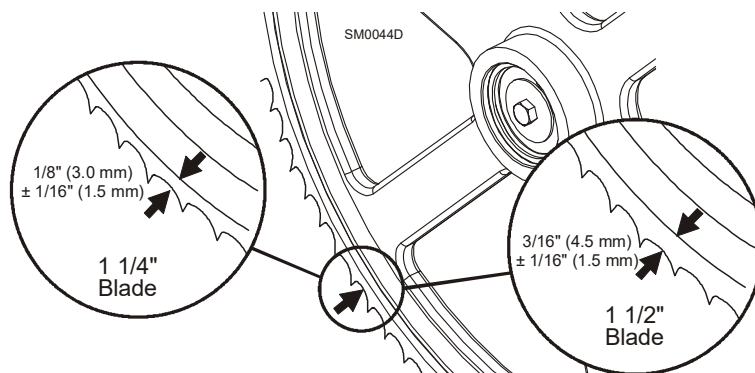

FIG. 3-8
7. Use the cant control to adjust where the blade travels on the blade wheels as shown above in **Figure 3-8**.
8. Adjust the wheel by turning the cant control until the gullet of the blade is the correct distance from the front edge of the wheel. **See Fig. 3-8.**